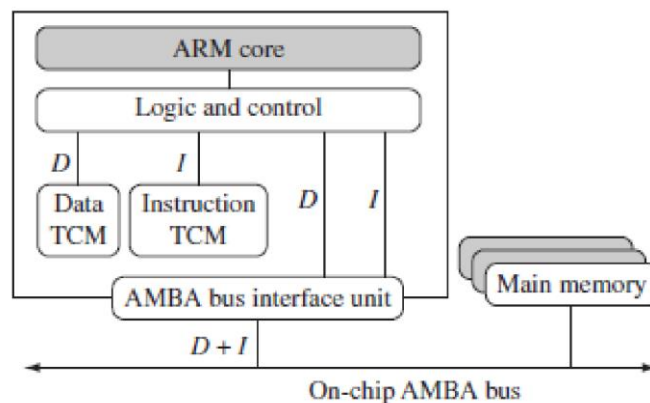

Figure 2: A simplified Harvard architecture with TCMs.
- The second form, attached to the Harvard-style cores, has separate cache for data and instruction as shown figure 2